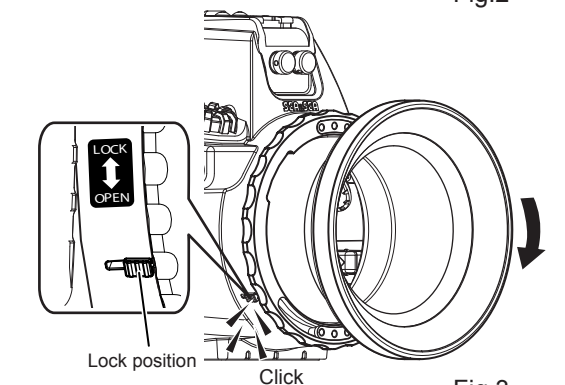

Fig.3
- 3 Rotate the port mount ring toward LOCK (in a clockwise direction) until you hear it click into position (Fig.3)